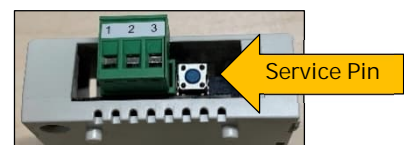
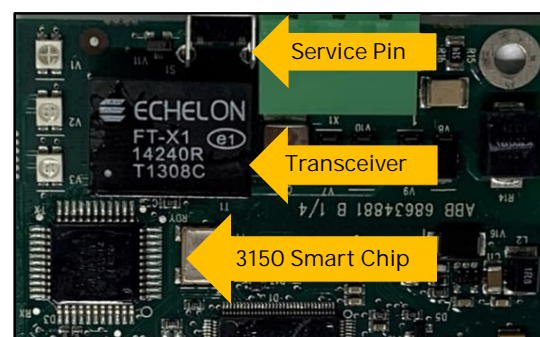

Figure 1 Service pin
Figure 2 Chip set
- Service Pin: a switch used to broadcast the Neuron ID to the LNS. See Figure 1
- Transceiver: the proprietary isolation transformer, such as the model FT-X1 shown in Figure 2. This part connects the processor to the network.
- Chip set: a generic term for the Neuron chip and transceiver device. See Figure 2. Together, this pair of devices make up the chip set. Every Lon device requires this chip set.
Figure 2 shows ABB's FLON-01 adapter module. The 3150 chip and FT-X1 transceiver make up the Echelon chip set. At the top is the service pin, used to broadcast the Neuron ID to the network. Figure 1 shows a better view of the service pin.